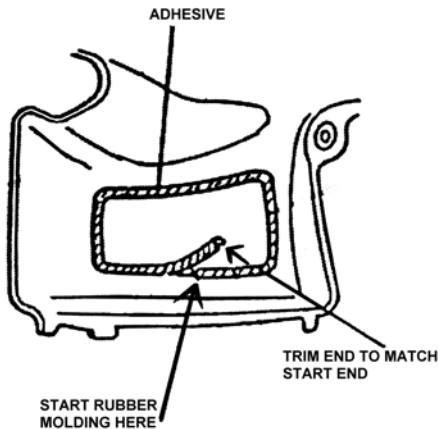

Figure 5
- Press the rubber molding onto the edges of the opening, starting at the bottom center and working it all the way around the opening. Be careful not to stretch the molding length. Trim the excess length off to match it squarely with the opposite end. Fig 5.